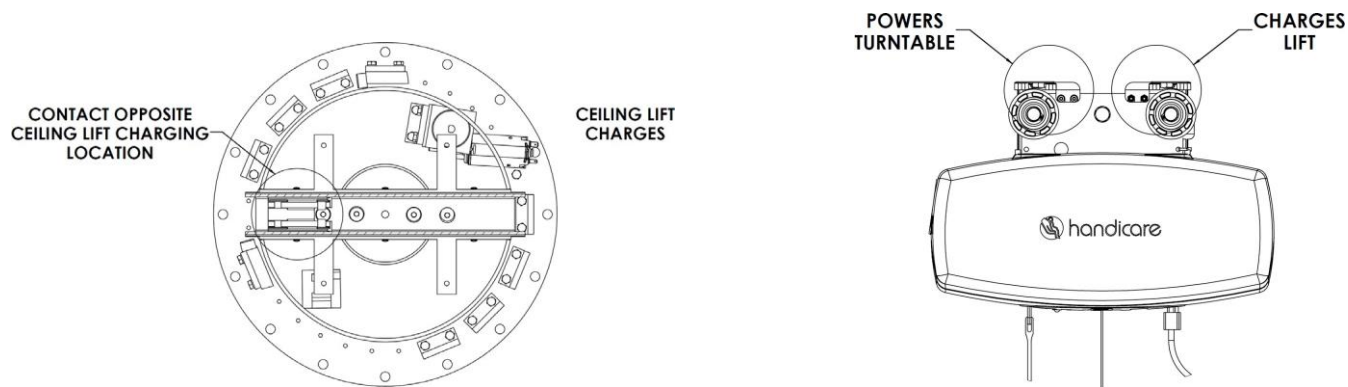

Figure 121: **Turntable Power Contacts**
- The power contact inside the turntable track receives power from the ceiling lift (Figure 121)